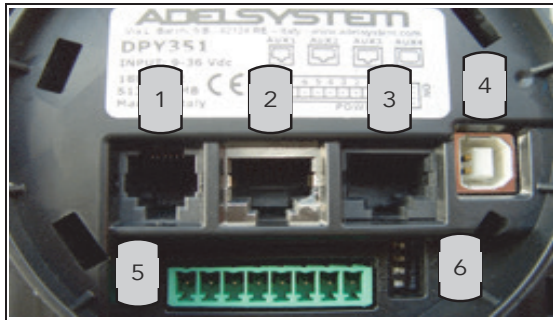

Fig. 2 – Connections to the DPY351 rear panel
2.4 Device Connection (Fig.2)
To connect DPY351 to a network a standard CAT5e or higher LAN cable must be connected to the AUX2 connector (RJ45) on the back of the unit, as shown in Fig.2. The DPY351 is configured to operate with a fixed IP address (192.168.1.100) and to reply at the standard HTTP port (number 80) by default.